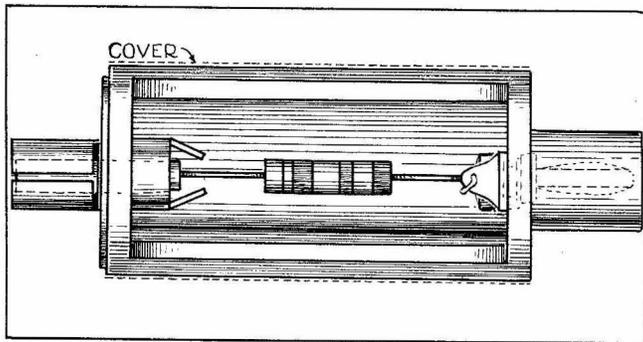
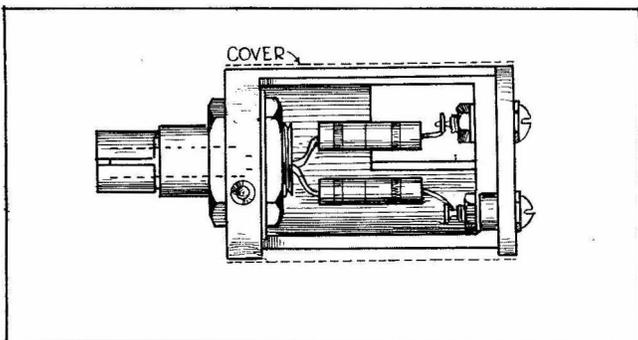

Figure 4-15—Coaxial Shielded Input Case Showing a Series Resistor Added as per Figure 4-9
Figure 4-16—Coaxial Shielded Output Case Showing Two Resistors Added as per Figure 4-14
j. Matching resistors should be assembled in shielded cases. The case and cover plate only of the 10:1 Attenuator Unit (Type CFD-63710) may be used to house the input matching unit between the Signal Generator and the cable. (See Fig. 4-15.) Likewise the case only of the Terminal Unit (Type CFD-49182) may be used to house the cable terminating and output matching resistors. (See Fig. 4-16.) These two units are not supplied with the Signal Generator.